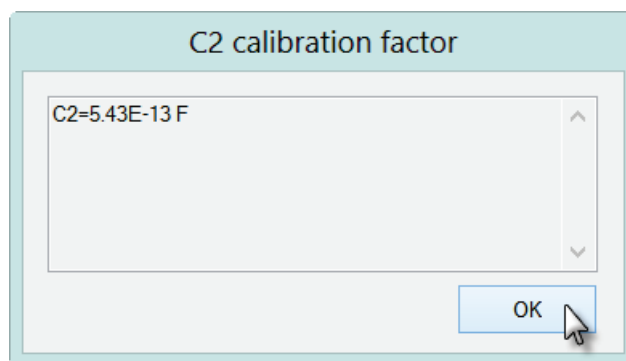

Figure 1.114 – The experimentally determined value of C2 is reported in a Message box at the end of the measurement
6. The data is automatically fitted and the results of the fitting are reported in a Message box at the end of the measurement (see Figure 1.114).